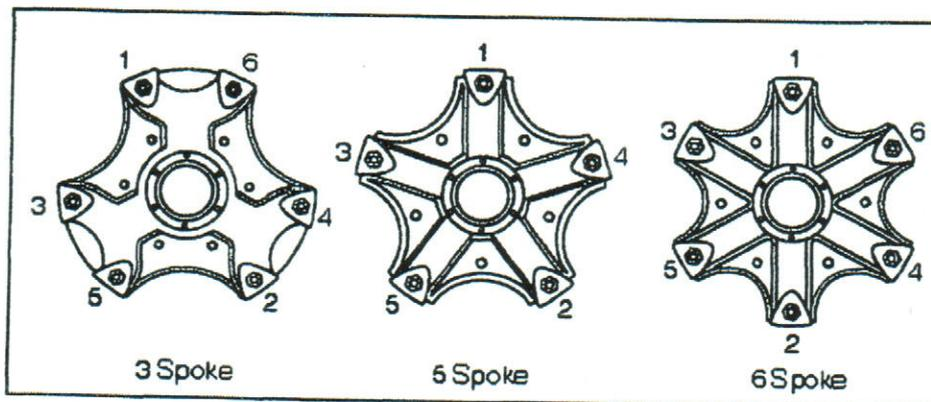

Figure 3: Nut Tightening Sequence for Spoke Wheels
- b. Check and tighten nuts using the crisscross sequence shown below in Figure 3. Wheel nut torques should be 250 ft-lb.